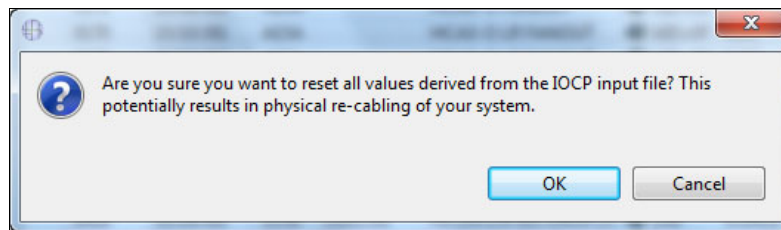

Figure 8-78 CMT - Reset CHPID assignments warning message
3. Click again to confirm the reset (Figure 8-78).